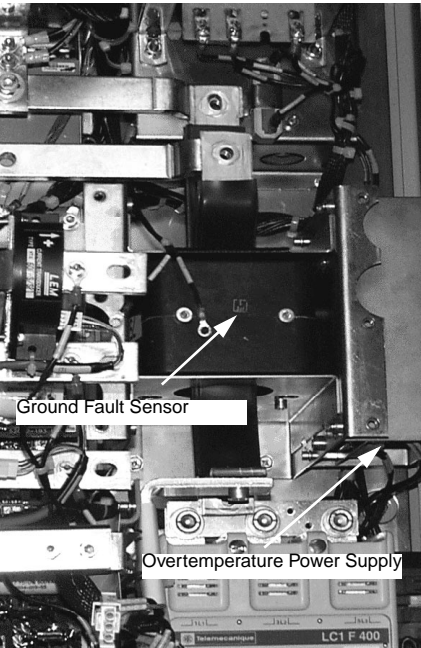

Figure 4.3.42: Ground Fault Sensor
6. Loosen and remove the hex head screws securing the (+) and (–) DC flex bus ties to the two diode bridge bus bars (see Figure 4.3.42).
8. Loosen but do not remove the hex head screw securing the riser bar extending from the laminated bus plate above the bus capacitor banks. Move this bar slightly to the side to gain access to the hex head screw securing the rear DC flex bus to the top of the precharge contactor (see Figure 4.3.42). Loosen and remove this screw.